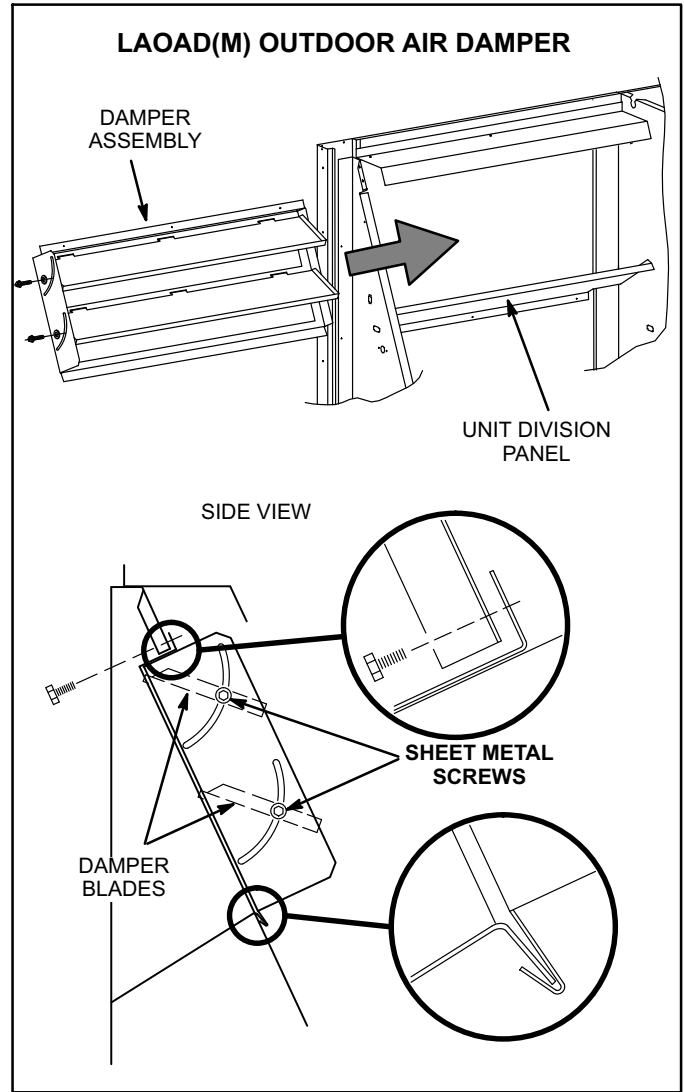

FIGURE 18
LAOAD(M)10/15 used on TCA090S/150 units consists of a set of dampers which may be manually or motor (M) operated to allow up to 25 percent outside air into the system at all times (see figure 18). Either air damper can be installed in TCA units. Washable filter supplied with the outdoor air dampers can be cleaned with water and a mild detergent. It should be sprayed with Filter Handicoater when dry prior to reinstallation. Filter Handicoater is R.P. Products coating no. 418.